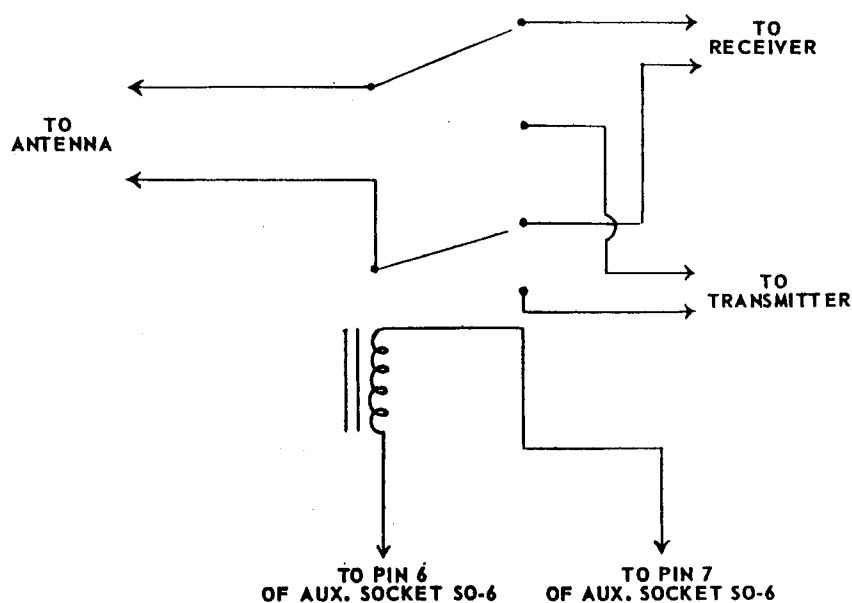

Figure 3. Antenna Relay. (DPDT Relay, Ceramic Insulation, 115 V. A.C. Coil).
- ☐ 1. Connect an 11½" piece of wire from lug 2 of keyjack J-1 (S) to pin 1 of Aux. Socket (SO-6). (S).
- ☐ 2. Connect the contacts of an antenna relay as shown in Fig. 3. Connect the coil wires of the relay to pins 6 and 7 of an octal plug.